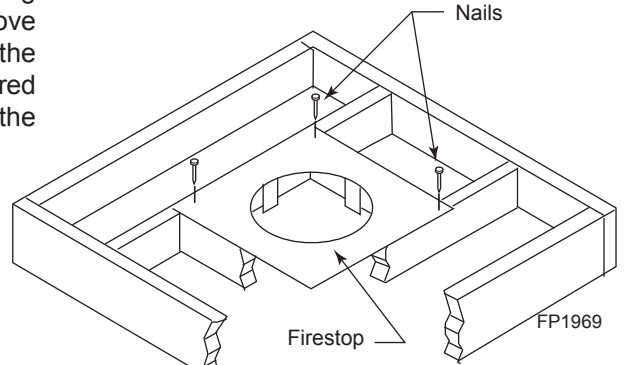

Figure 33 - If area above is a room, install firestop above framed hole as shown
1. Cut a 9½" (241 mm) square hole in the ceiling using the locating hole as a center point. The opening should be framed to 9½" x 9½" (241 x 241 mm) inside dimensions as shown in Figure 33 using framing lumber the same size as the ceiling joist. If the area above the ceiling is an insulated ceiling or a room, nail firestop from the top side. This prevents loose insulation from falling into the required clearance space. Figure 33. Otherwise, install firestop below the framed hole.